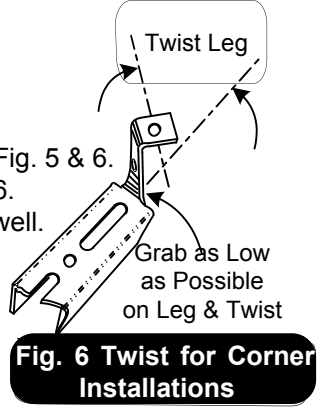
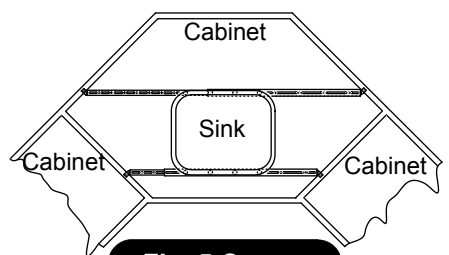

Fig. 6 Twist for Corner Installations
Fig. 5 Corner Installation
1) Corner sinks can be installed as shown in Fig. 5 & 6. The Sink Setter legs can be twisted as shown in Fig. 6. Follow the steps above for this type of installation as well.